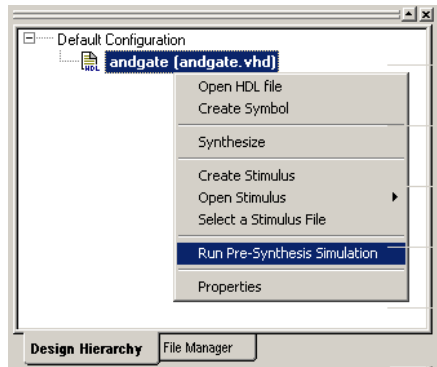

Figure 2-16. Run Pre-Synthesis Simulation
4. Double-click the **ModelSim** simulation icon in the **Process** window, or right-click **andgate** in the Design Hierarchy tab and select **Run Pre-synthesis Simulation**, as shown in **Figure 2-16**.